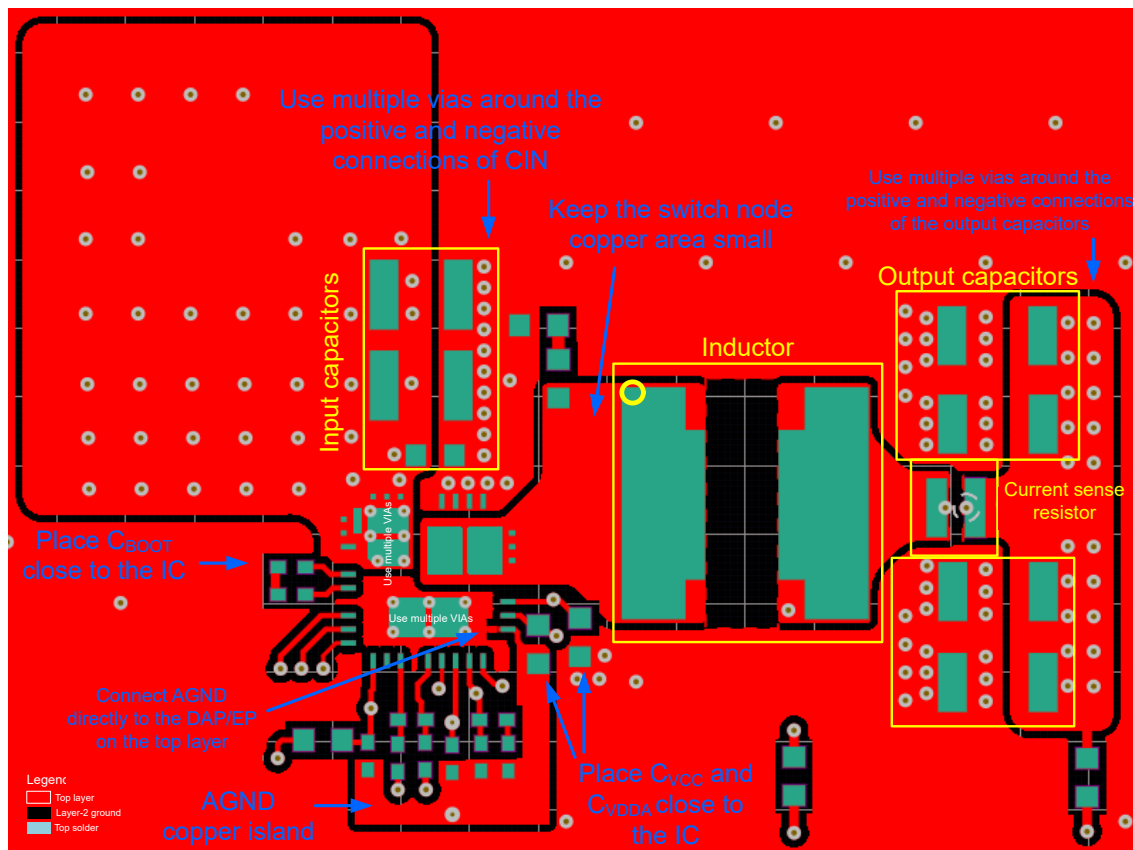

Figure 9-18. PCB Top Layer
The following list summarizes the essential guidelines for PCB layout and component placement to optimize DC/DC converter performance, including thermals and EMI signature. Figure 9-18 shows a recommended layout of the device with optimized placement and routing of the power-stage and small-signal components.
- Use low-ESR ceramic capacitors with X7R or X7S dielectric from VIN to PGND. Place an 0402 or 0603 capacitor close to VIN for high-frequency bypass as shown in Figure 9-18. Use additional 1206 or 1210 capacitors for bulk capacitance.